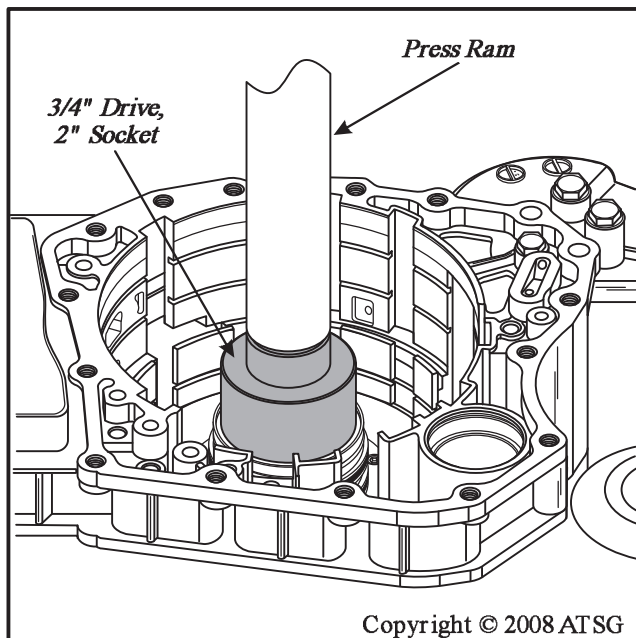

Figure 66
2. A press is then required to remove assembly from the case, using a 3/4" drive, 2" socket to press against support, as shown in Figure 66.
Caution: Ensure that you press against the support, as shown in Figure 66. Special tools are not yet available from dealer and some must be manufactured, which we will discuss later in this manual.